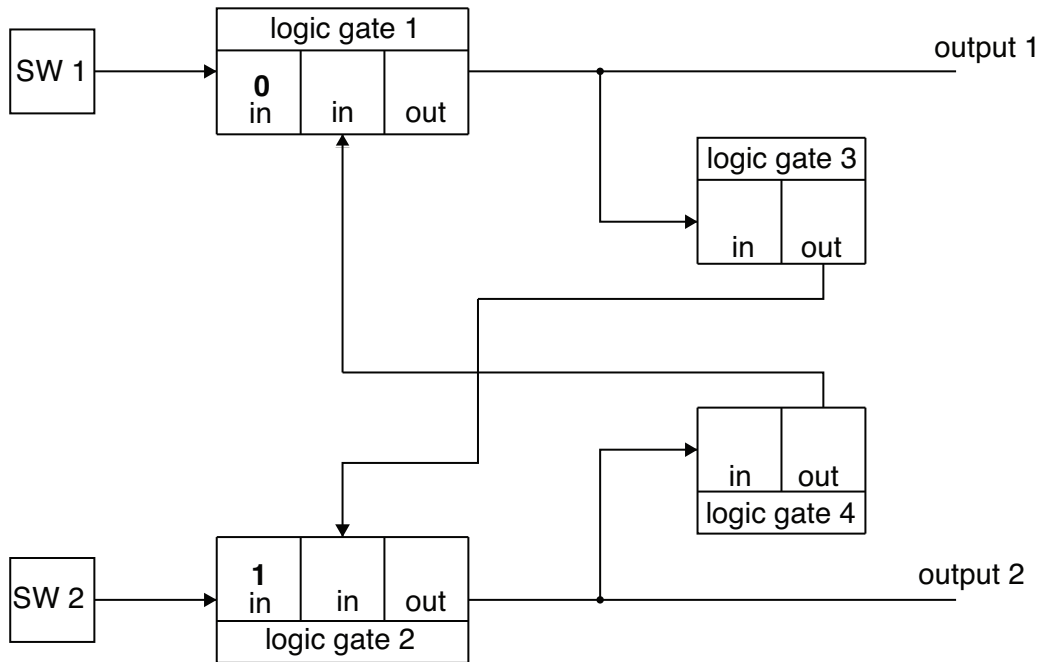

Fig. 18
- (b) Complete Fig. 18 to show the logic levels of each gate when SW2 is pressed first.